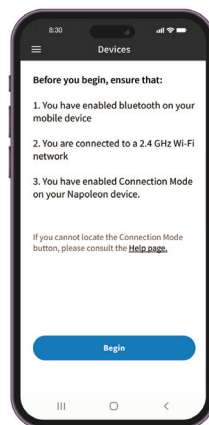

Fig. 7
5. Accept the permissions. (Fig. 7)